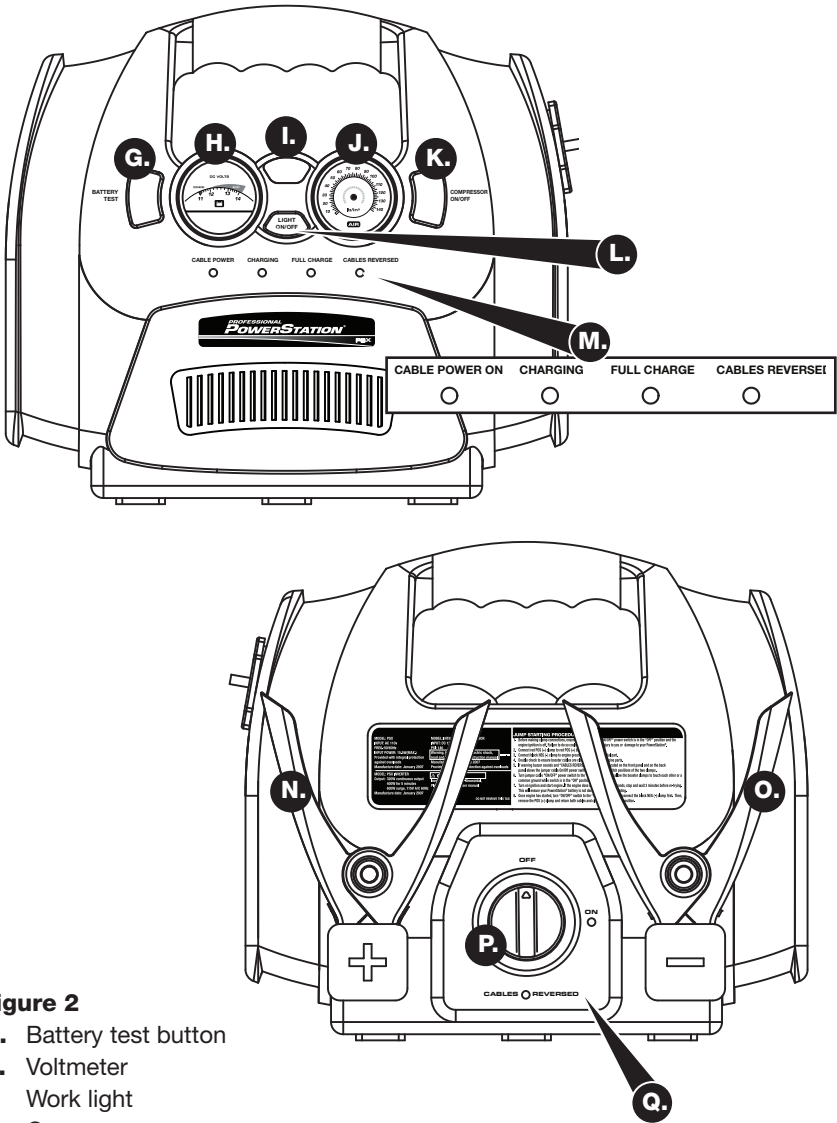

Figure 2
1. Be sure that the PSX jumper cables power switch is in the OFF position (see Figure 2 on page 7 for location P).
7. Connect the red positive (+) clamp (see Figure 2 on page 7 for location N) of the PSX to the positive (+) terminal of the battery (never lean over the battery when making connections to jumpstart).
8. Connect the black negative (-) clamp (see Figure 2 on page 7 for location O) of the PSX to the engine block, cylinder head, or other heavy, yet stationary metal engine part.
If cables are attached to the incorrect battery terminal the Cables Reversed LED (see Figure 2 on page 7 for location Q) will switch on and a warning tone will sound. If this occurs, correct the connection before proceeding to the next step. Failure to do so may cause sparking, personal injury and/or harm to the vehicle or jumpstart unit. **Check to be sure that the cables are clear of all moving engine parts.**
To use the integrated work light, simply press the work light power button located directly below the work light (see Figure 2 on page 7 for location L).
The air compressor in the PSX is designed as a convenient portable inflation device. After ten minutes of continuous use, turn off the compressor and allow it to cool for ten minutes. Continue use, if necessary, following this ten minutes on / ten minutes off cycle (see Figure 2 on page 7 for location K).
2. Switch on the compressor via the switch on the front of the PSX (see Figure 2 on page 7 for location K).
3. Check the pressure gauge (see Figure 2 on page 7 for location J). Once desired psi is reached, remove the valve connector by releasing the thumb latch.